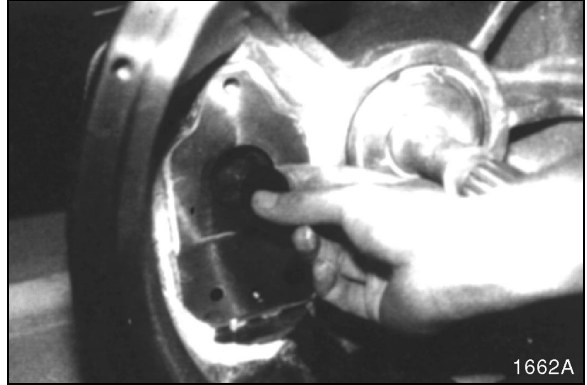

Figure 69
6. Remove coupling. See Figure 69.